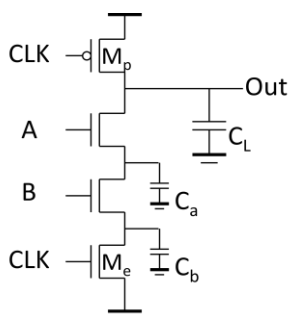

Fig. 3
- Consider a dynamic logic (NADN2) as shown in Fig. 3. Assume the $C_a = C_b = 10\text{fF}$, $C_L = 40\text{fF}$, $C_{gs}(C_{gd})$ of $M_p = 5\text{fF}$, and $V_{DD} = 1\text{V}$. (5%)